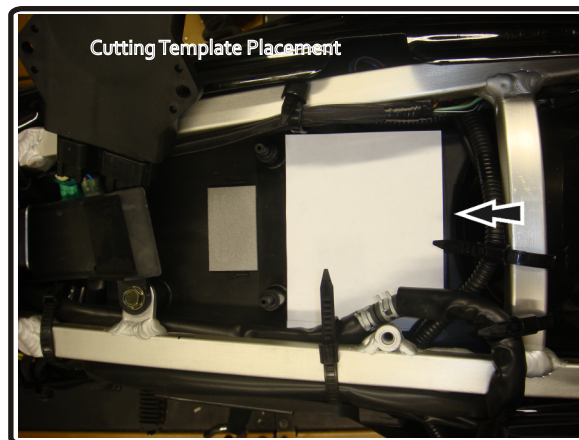

Fig. 3
3. **Place template onto airbox as shown in Fig. 3. Mark outline of template with a permanent marker.**